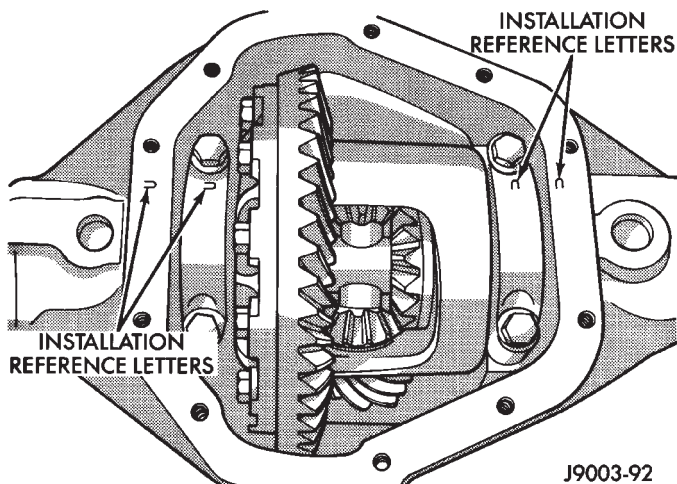

Fig. 27 Bearing Cap Identification
- (1) Remove axle shafts.
- (2) Note the orientation of the installation reference letters stamped on the bearing caps and housing machined sealing surface (Fig. 27).